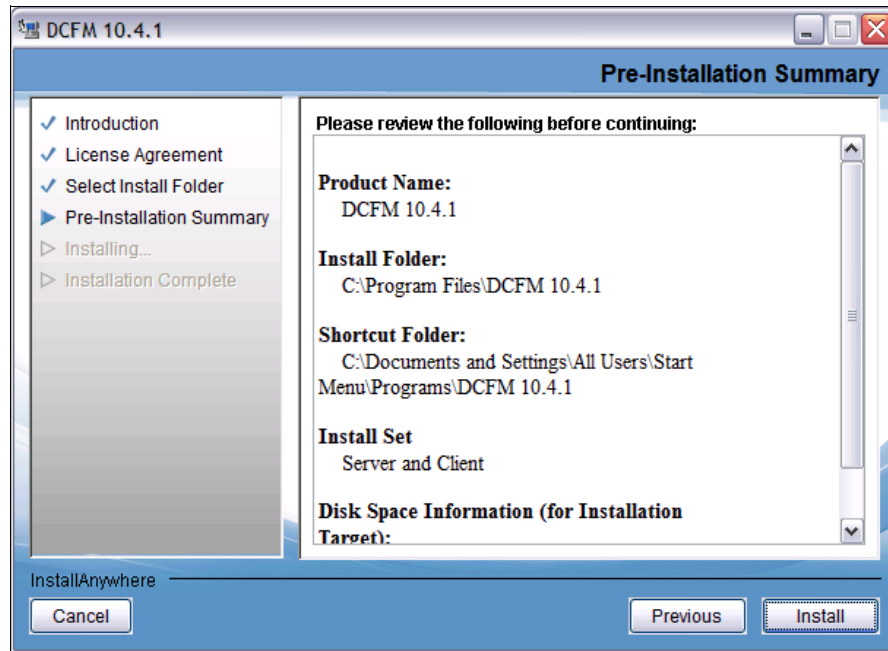

Figure 9-3 Pre-Installation Summary panel
5. Review the displayed installation summary on the Pre-Installation Summary panel and click **Install** (see Figure 9-3).